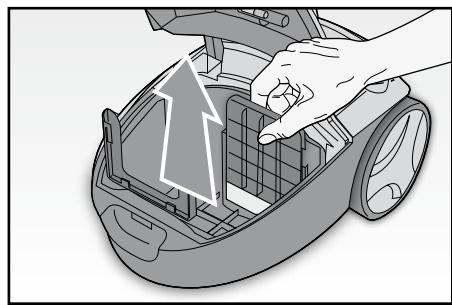

Fig. 9
- Remove the filter (FIG. 9) and shake it hard to remove dust and other residues. If it is very dirty, wash in warm soapy water; rinse thoroughly and leave to dry naturally. DO NOT use artificial drying means. To replace the filter, contact a Technical Assistance Centre.